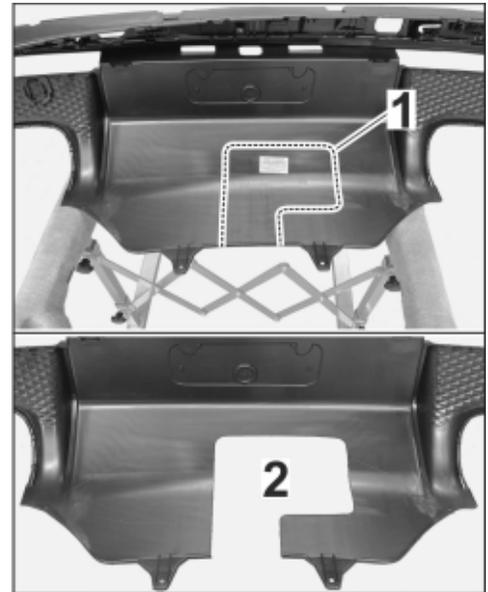

Figure 22
- 4.1.2 Mark the cut-out for the trailer hitch along the impression (⇒ *Figure 22 -1-*) on the inside of the rear panel so that it is clearly visible using a pen.
- 4.1.3 Carefully make the cut-out using a drill and saw along the marking (⇒ *Figure 22*).
- 4.1.4 De-burr cut edges (⇒ *Figure 22 -2-*) with a knife or file.